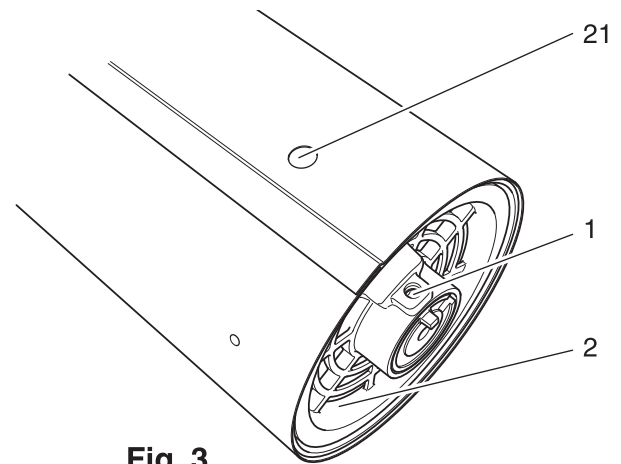

Fig. 3
- While fitting driving units with flanged pipe 3, make sure that screw 20 is placed exactly under drill hole 21 (fig. 3).
- Loosen screws 1 of the left and right roller holders (fig. 3).